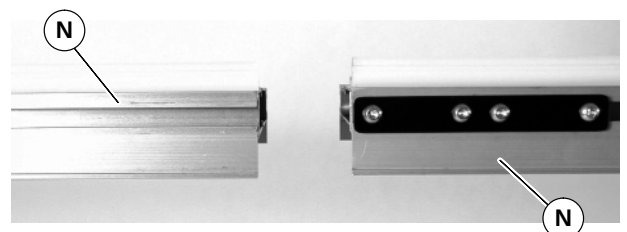

Figure 5
1. Locate conveyor sections (N Figure 5)